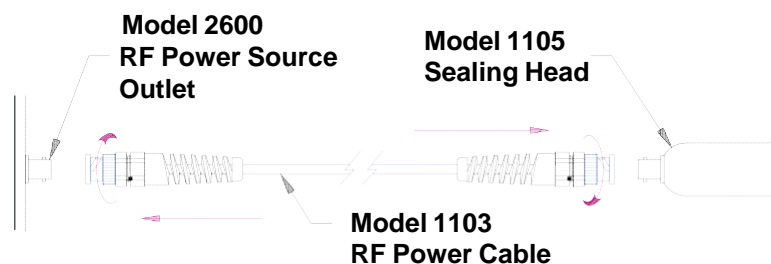

Figure 3-5, Attachment of RF Power Cable
8. Attach one end of the RF power cable to the power source and the other end to the sealing head. Connect the cable by pushing the connectors together and rotating clockwise until locked (see Figure 3-5, Attachment of RF Power Cable).